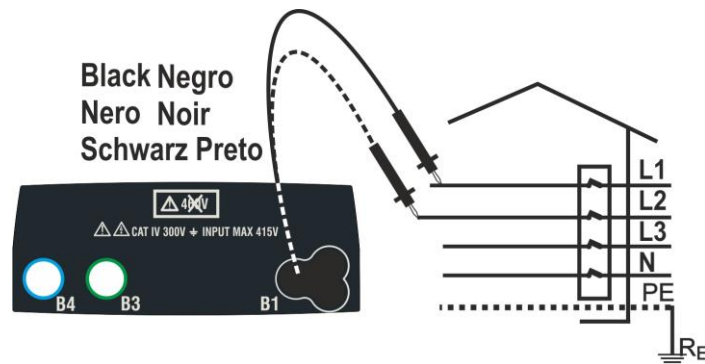
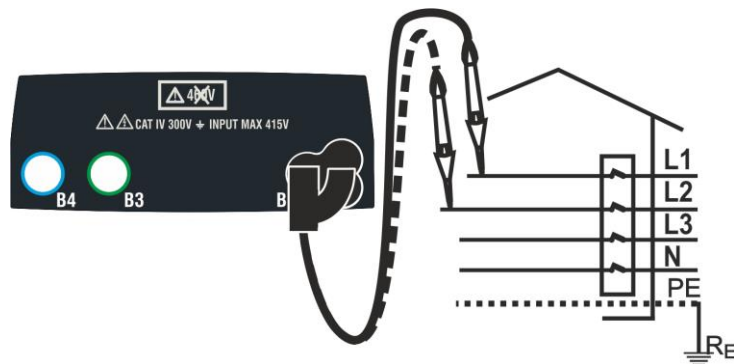

Fig. 32: Phase sequence check with test leads
Fig. 33: Phase sequence check with remote switch probe
2. Insert the black lead connector into the corresponding input B1 of the instrument. As an alternative, use the single cable and apply the relevant alligator clips to the free ends of the cables. It is also possible to use the remote switch probe by inserting its multipolar connector into the input B1. Connect the alligator clips or the remote switch probe to the electrical mains according to Fig. 32 or Fig. 33.
5. Under these conditions, connect the alligator clips, the tips or the remote switch probe to phase L2 in accordance to Fig. 32 or Fig. 33.